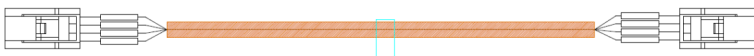

Figure 6-5 Battery module communication cable diagram (for reference only)
1) Take out the matching battery module communication line as shown in Figure 6-5 and separate the communication line according to the battery module communication line label.